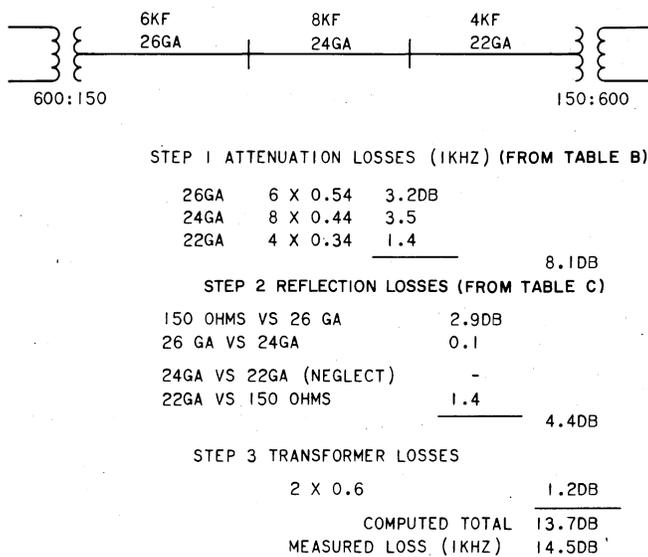

Fig. 6—Example of Loss Computation-Mixed-Gauge Nonloaded Facilities
5.16 Calculation is the least accurate method of estimating losses of nonloaded facility mixtures. For approximate losses, compute the attenuation from Table B and add reflection losses from Table C. If the attenuation of any continuous length of the same gauge cable pair is 3 dB or less, ignore its reflection loss with an adjacent repeater or section of cable. In each direction of 4-wire transmission, the loss of a 359B or 359F equalizer is 0.5 dB when the cable is long enough to present characteristic impedance. This loss increases nonlinearly to 0.8 dB as cable length decreases. Where approximates are accurate enough, use 0.6 dB in each direction for a 359B or 359F equalizer. Figure 6 illustrates a method of calculating design losses of mixed-gauge nonloaded facilities.